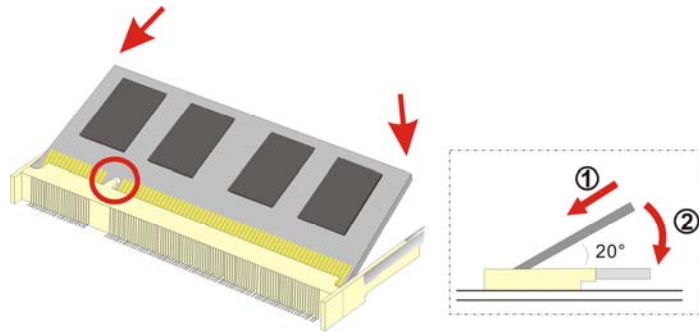

Figure 4-3: DDR SO-DIMM Module Installation
Step 7: Install the new DDR memory module by pushing it into the socket at an angle (**Figure 4-3**).
Step 8: Gently pull the spring retainer clips of the SO-DIMM socket out and push the rear of the DDR memory module down (**Figure 4-3**).